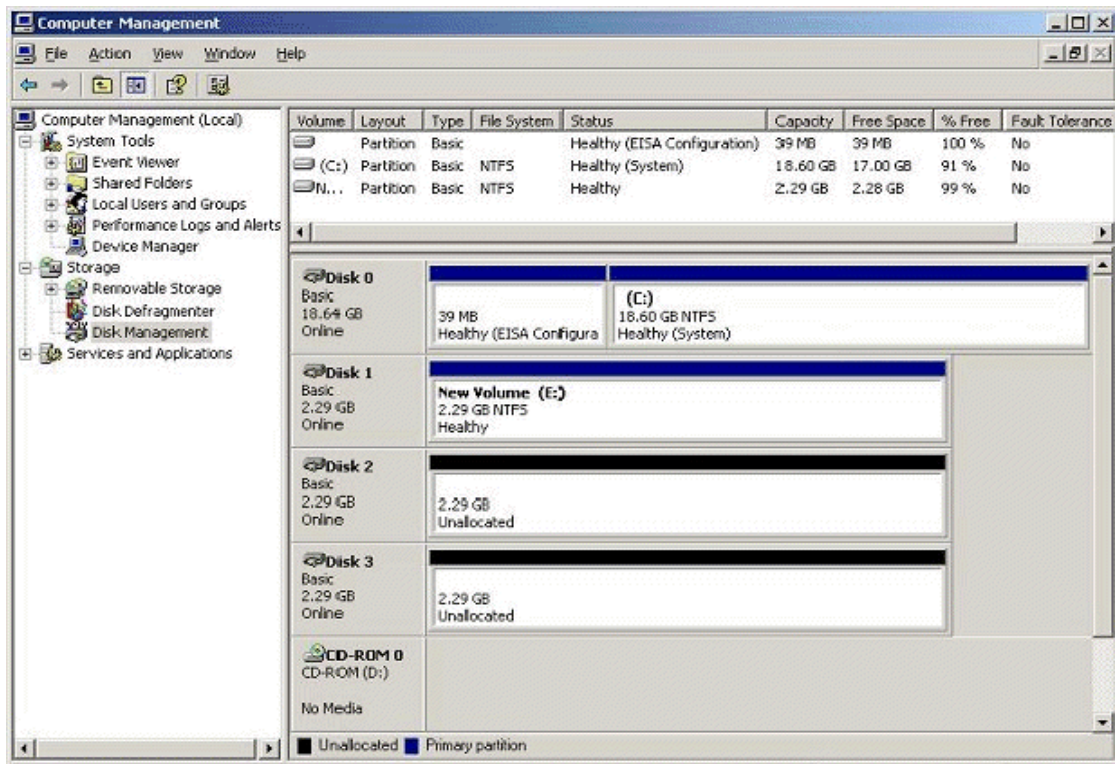

Figure 2-16: Verifying the Formatted Partition
8. Verify that the Disk Management main panel shows the correct file system (NTFS) for the formatted partition (Figure 2-16 on page 2-21). The word **Healthy** indicates that the partition has been created and formatted successfully.